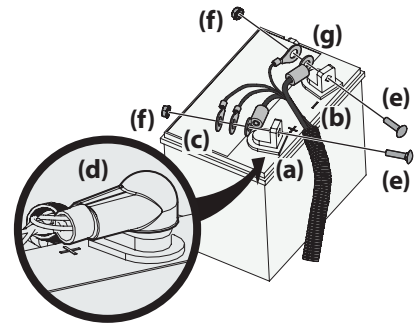

Figure 20
NOTE: The positive battery terminal is marked POS. (+) (a). The negative battery terminal is marked NEG. (-) (b). See Figure 20.
NOTE: If the positive cable grouping (c) is already attached, skip ahead to Step 6. See Figure 20.
- Slide the red boot (d), if present, back along the positive cable grouping. See Figure 20.
- Attach the positive cable grouping (c) and positive cable for the 12V outlet (if equipped) to the positive battery terminal (a) with the bolt (e) and sems nut (f). See Figure 20.
- Position the red boot (d) over the positive battery terminal (a) to insulate it and help protect it from corrosion. See Figure 20.
- Attach the negative cable grouping (g) and negative cable for the 12V outlet (if equipped) to the negative battery terminal (b) with the bolt (e) and sems nut (f). See Figure 20.